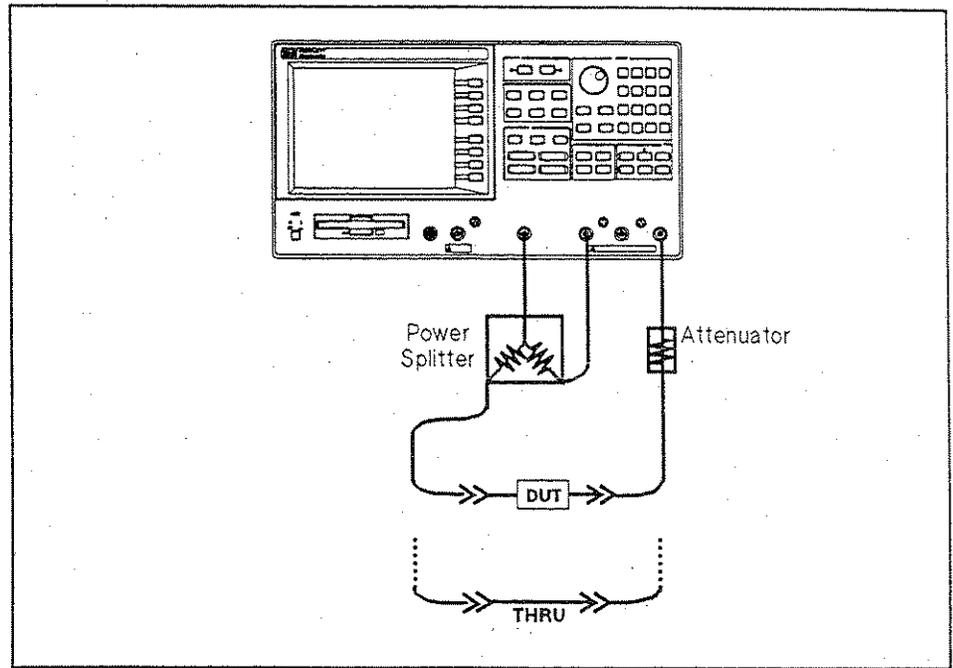

Figure 4-22. Gain Compression Measurement Setup
Set up the analyzer as shown in Figure 4-22.
2. Connect a THRU calibration standard between the measurement cables in place of the DUT (see Figure 4-22).